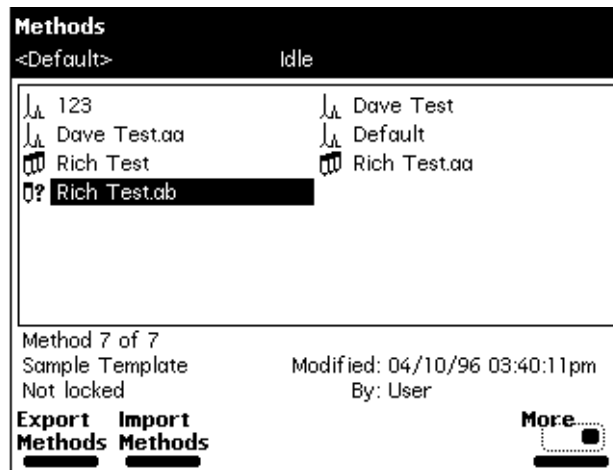

Figure 4-7 Methods Screen
2. Press the **Methods** screen key in the Main screen, then press the **More** screen key twice to access the Methods screen (Figure 4-7).